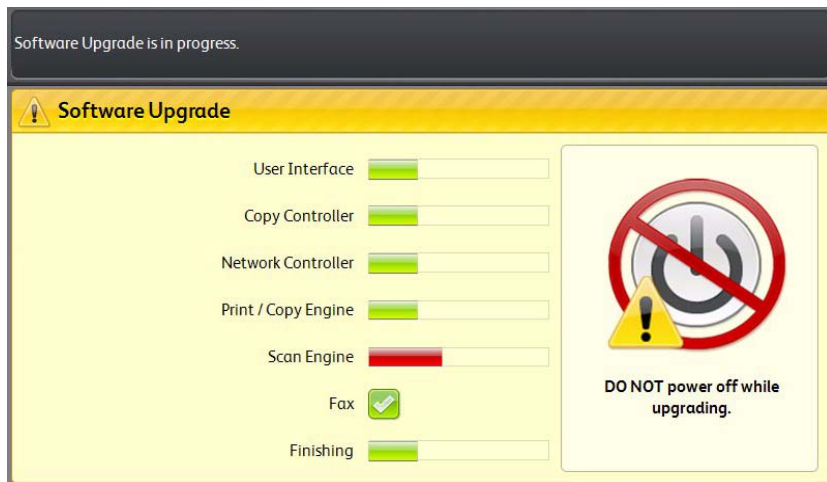
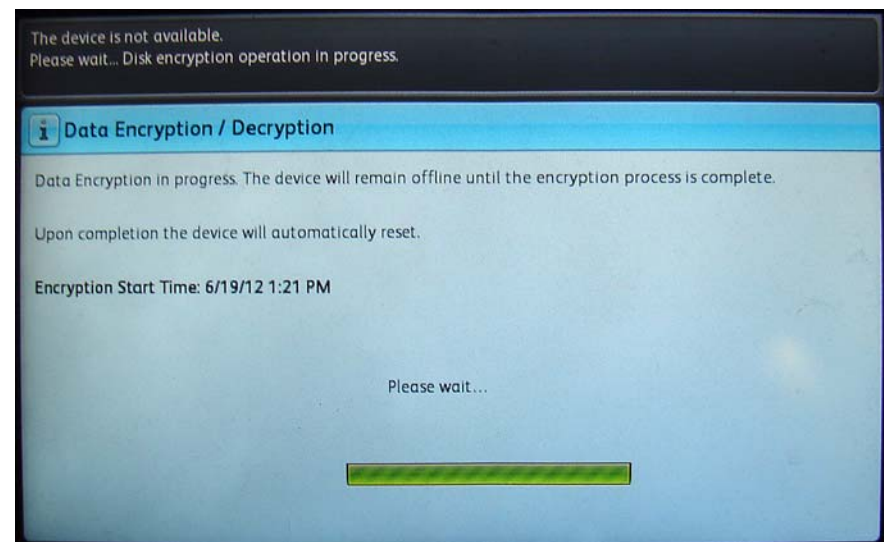
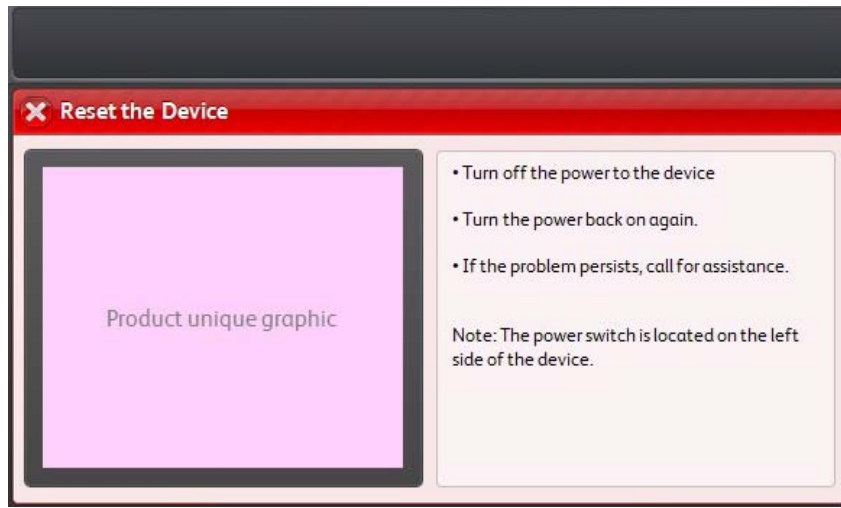

Figure 3 Upgrade progress
Figure 6 Encryption progress
Figure 7 Power On failed
8. The upgrade begins and the progress screen opens, Figure 3.
11. The system reboots several times before returning to a ready state. The system may also display the upgrade progress screen, Figure 3. If the power on failure screen is displayed, Figure 7, switch off, then switch on the machine.
10. The upgrade begins and the progress screen opens in approximately 2 minutes, Figure 3.
13. The system reboots several times before returning to a ready state. In some instances, a second upgrade progress screen may appear, Figure 3 or the Data Encryption/Decryption in progress screen, Figure 6. If a power On failure screen appears, Figure 7, switch off, then switch on the machine.
14. Check that the software set has installed. Refer to the printed software upgrade report, Figure 7 or by pressing the **Status** button.